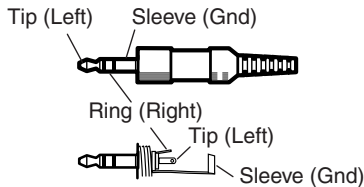

Figure 2-7 — Audio input connector wiring
- 2 **Audio input** — Connect an unbalanced stereo audio source (such as a computer or a CD player) to this 3.5 mm mini stereo jack for unbalanced audio input. Figure 2-7 shows how to wire the audio plug.